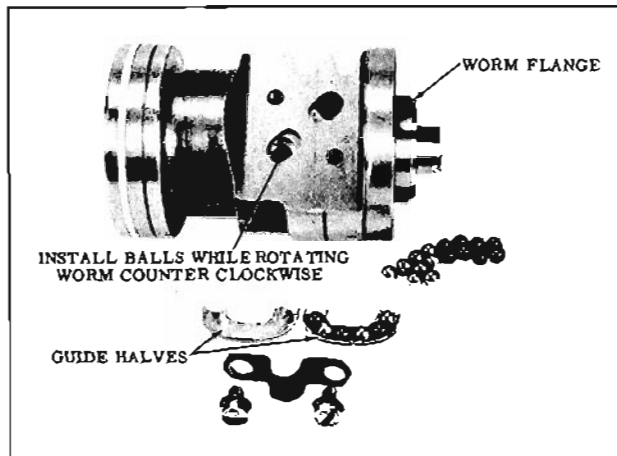

Fig. 8-61 Installing Balls in Rack-Piston
3. Turn the worm until the worm groove is aligned with the lower ball return guide hole. (Fig. 8-61)